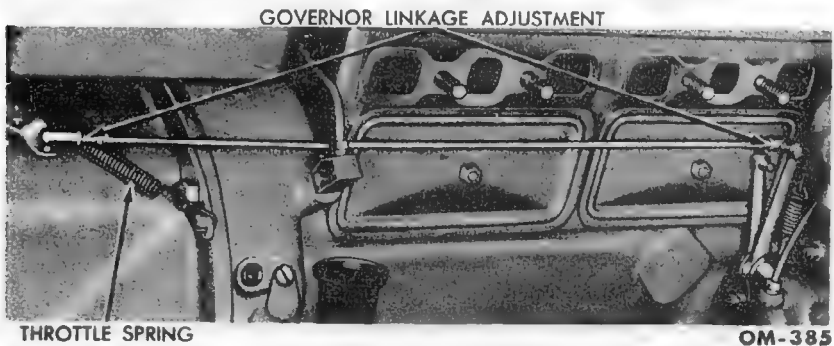

Fig. 53—Governor Linkage Adjustment
(2) *ENGINE SPEED UNDER 2200 R.P.M.* Shorten the governor rod to secure an engine speed of 2200 R.P.M. when the throttle lever is in the maximum speed position (fig. 53). It may be necessary to back off the maximum speed adjustment to adjust the governor rod (fig. 51). Adjust the maximum speed adjustment after the governor rod has been adjusted.